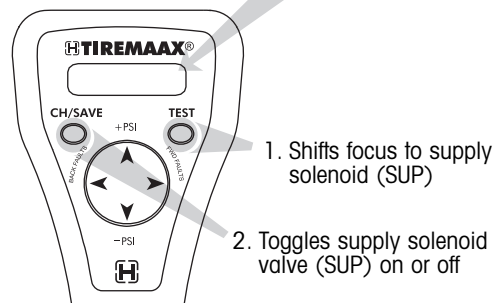

Figure 38. Testing the supply solenoid valve (SUP) response
- To test the supply solenoid valve response, press the TEST button (figure 38). The diagnostic focus shifts from the indicator to the supply solenoid valve.
Press the CH/SAVE (change/save) button to toggle the supply solenoid valve from off to on. Press the CH/SAVE button again to toggle the valve from on to off (figure 38).